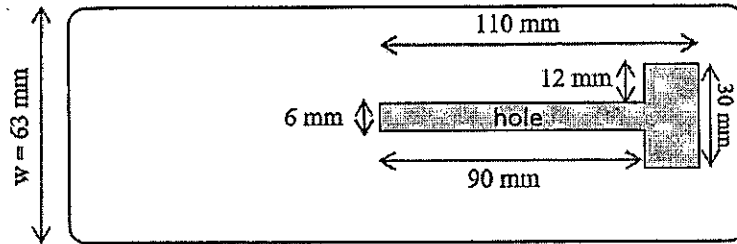
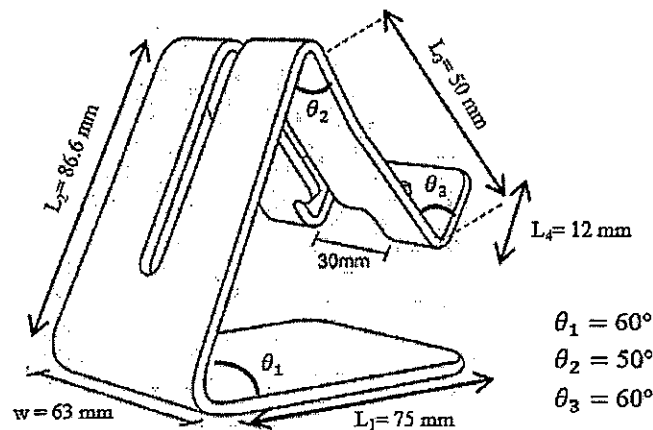

Figure 3: Aluminium alloy sheet before going through the bending process
Figure 4: Detailed dimensions of the holder
Now you are thinking of how to manufacture these holders in your workshop. You went to the stockroom and found many large 2024ST aluminium alloy sheets with thickness of 3 mm, so you decided to use them for the holders. You decided to first blank and punch the metal sheets to get the required dimensions, and then use V-bending to bend the blanked sheets for three times to its final shape. The dimensions of the blanked sheet before bending are shown in Figure 3 and the dimensions of the finished holder are shown in Figure 4.
- (a) The dimensions of the finished holder are shown in Figure 4. Given the bend radius to be 4 mm for all the three angles, determine the bend allowance for each of the three bended angles.
- (b) What is the starting blank size (length and width) required to make one holder? Use the lengths of straight portions ( $L_1$ ,  $L_2$ ,  $L_3$ ; and  $L_4$ ) given in Figure 4.
- (c) Now you will design a “compound die” to simultaneously punch the hole and blank the perimeter to the required dimensions. Determine the die and punch dimensions of the compound die for the BLANKING process. The allowance  $a$  is 0.060 for 2024ST aluminium alloy. Use the starting blank size you calculated in (b) and the dimensions given in Figure 3. Give your answers by filling up the dimensions in the boxes below.
- (e) What is the force required for the compound die to cut the aluminium alloy sheet in order to obtain the punched and blanked sheet as shown in Figure 3? The tensile strength of the aluminium alloy is 350 MPa.